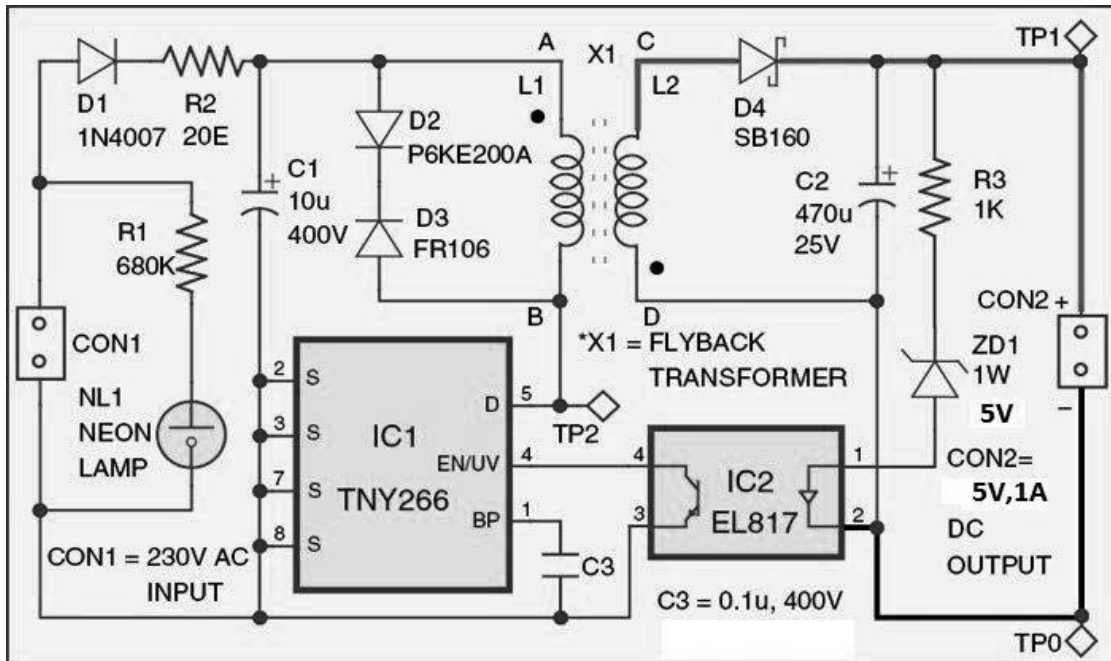

Fig. 15.1 SMPS 5V 1Amp circuit
1. Connect the circuit as per the diagram shown in Fig. 15.1.